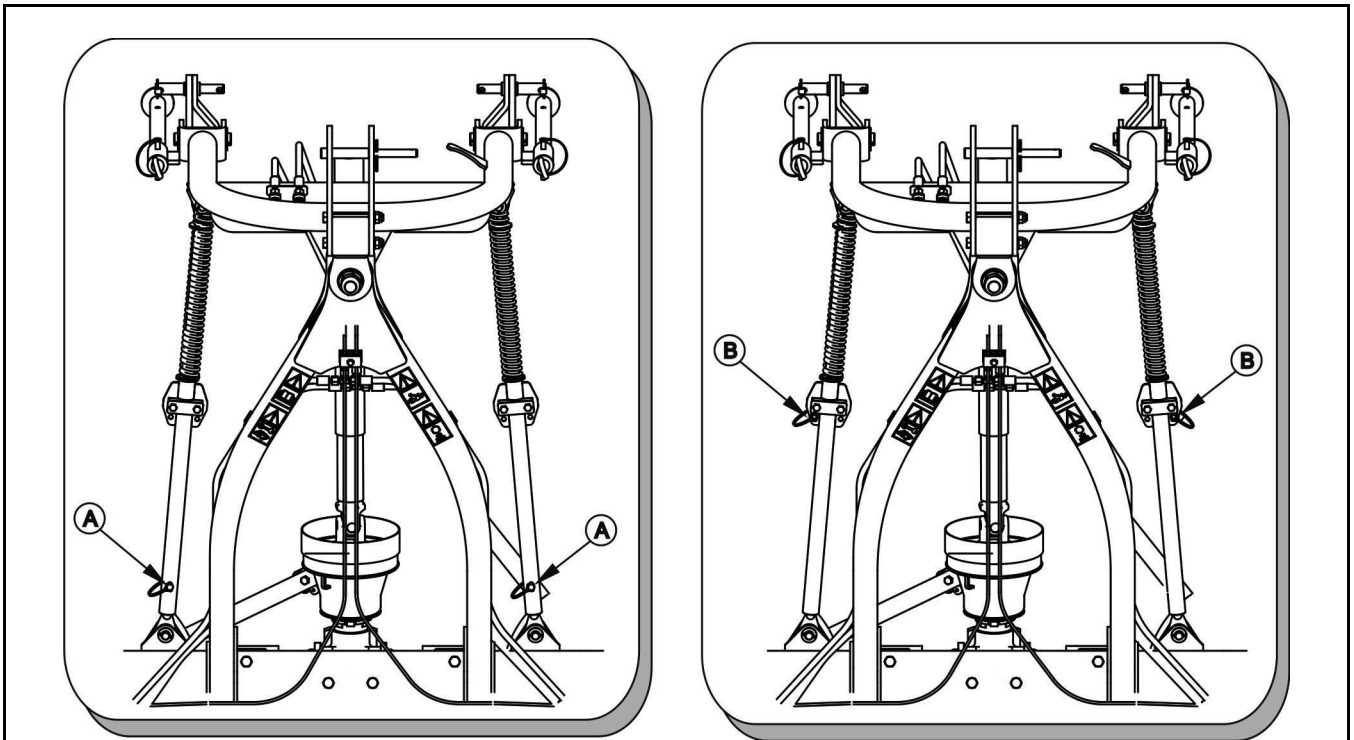

FIG. 4.4A Set vibration absorber in working position.
- Unlock right and left tedder vibration absorbers taking out locking linchpins (FIGURE 4.4A).